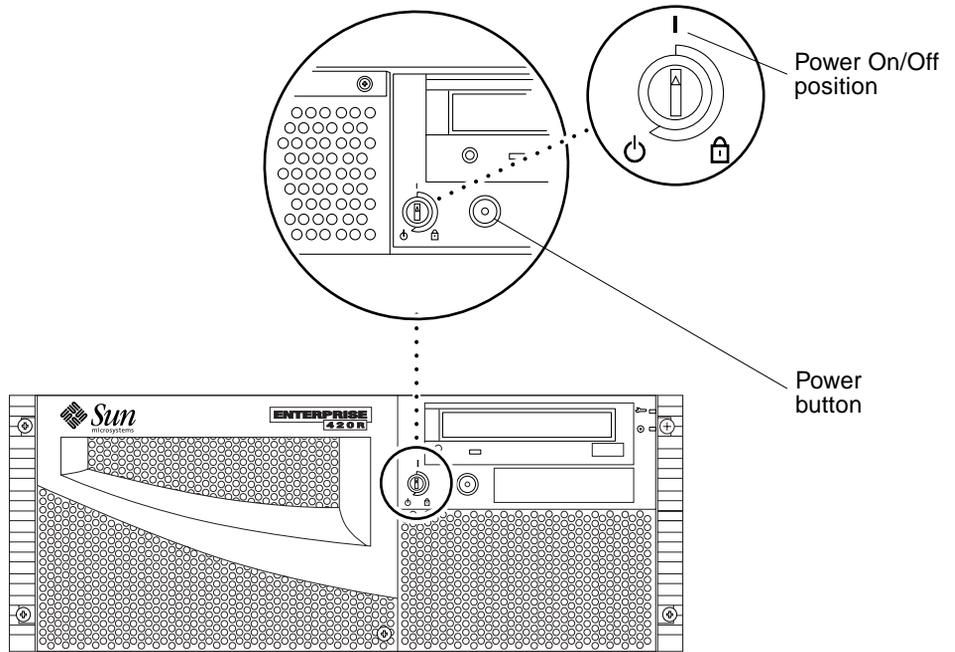

FIGURE 6-5 Powering On the File Server or Compute Engine
2. Turn the front panel key switch to the Power-On/Off position (FIGURE 6-5).